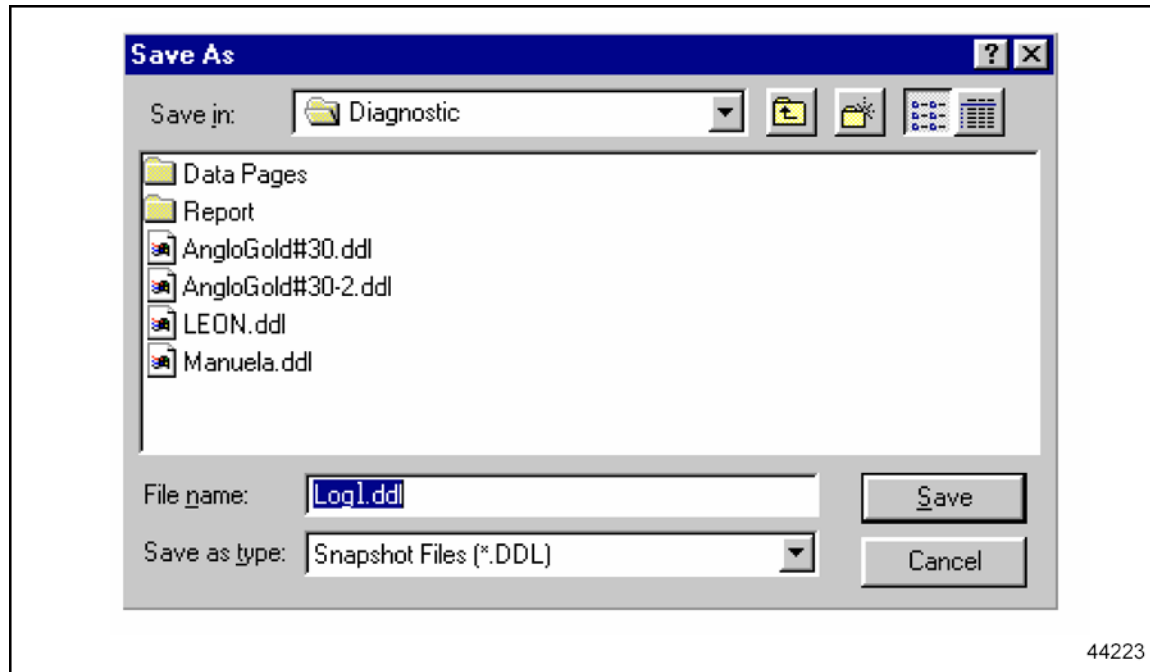

Figure 6-4 File Name Box
8. When the **Yes** option is chosen, the **Save As** dialog box will appear on the screen. A suggested file name will appear outlined in blue in the **File Name** box. See Figure 6-4.